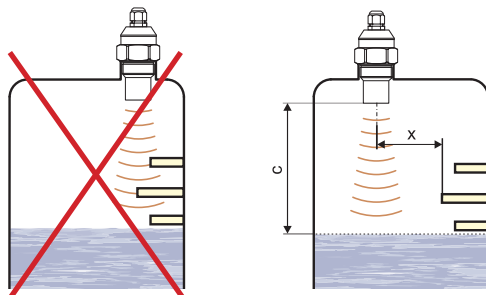

Fig. 6: Minimum distance of the level meter to nearby objects in the tank
- h) Emitted acoustic signal must not be affected by near objects (ladders, mixers, propellers, etc.), stream of filling, air flow, etc. (Fig. 6).